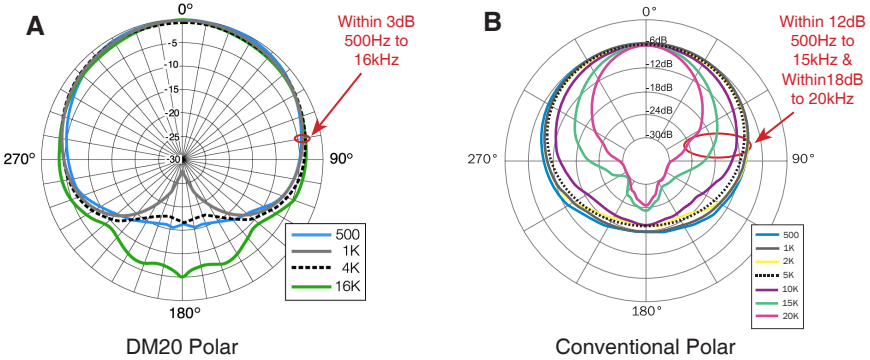

Figure 2-A & 2-B Earthworks vs. Conventional Polar Response
directional microphone? The singer at the front of the mic sounds great, but the two on the sides of the microphone sound muffled due to the lack of high frequency pickup at the sides of the microphone. In contrast, the Earthworks proprietary polar technology provides virtually the same frequency response on the sides of the microphone as at the front with no more than a 3dB loss at any specified frequency out to 80° off-axis). This extremely uniform frequency response at the front and sides of the microphone dramatically reduces phasing issues when using Earthworks microphones. Refer to Figure 2 A & B to see how uniform the Earthworks microphone (A) polar response is, in comparison to the conventional microphone (B).